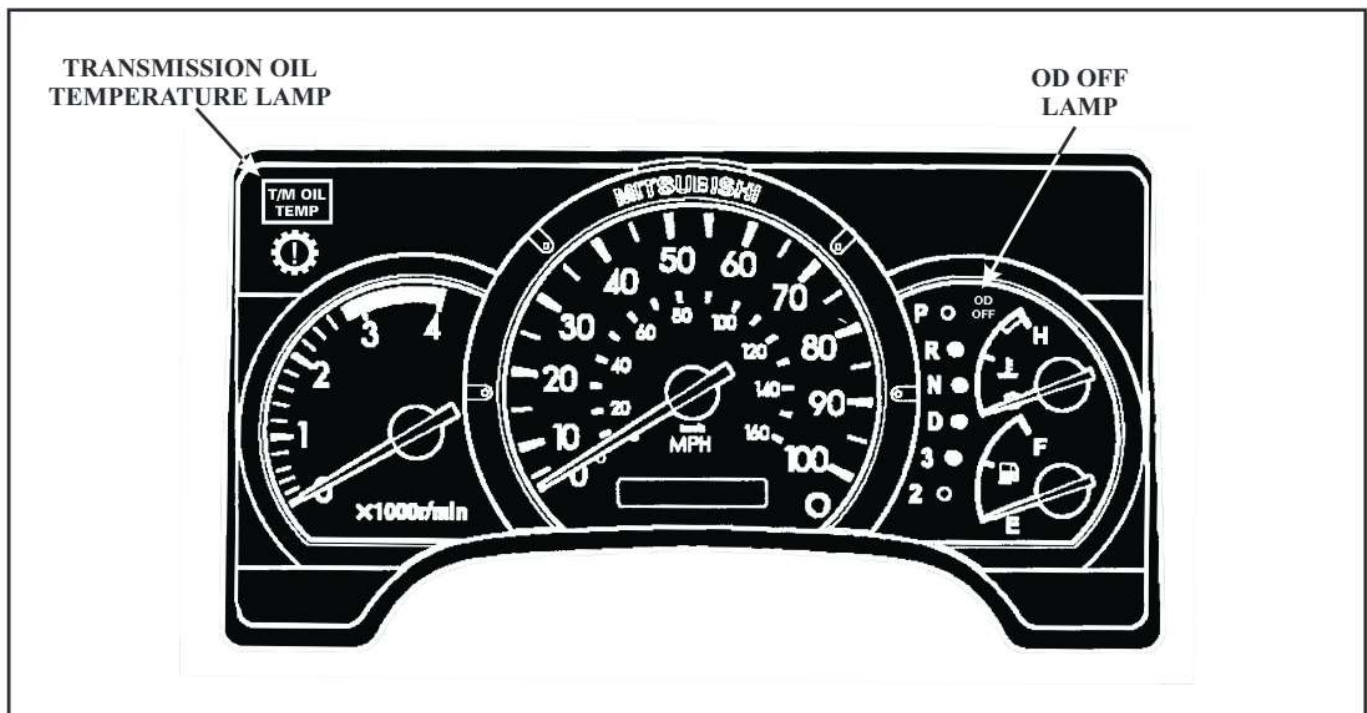

Figure 60
- 5 - Make certain the OD Switch located on the shift lever, is OFF, (light on dash is ON, see Figure 60).
- 7 - The Transmission Temperature Lamp will flash rapidly, see Figure 60.